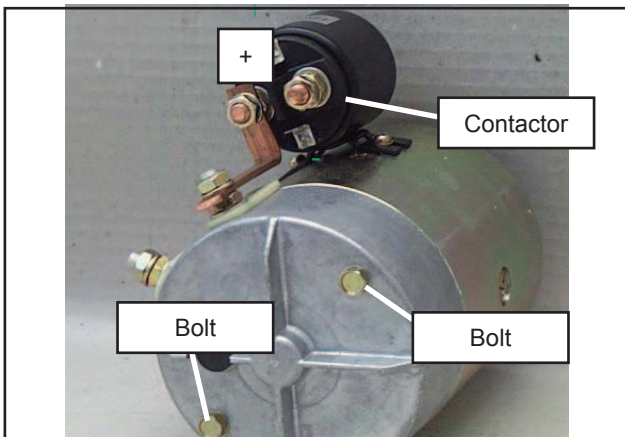

Figure 3-3: DC motor showing contactor and bolt location.
1. Remove the 2 bolts shown in Figure 3-3 at the end of the motor.